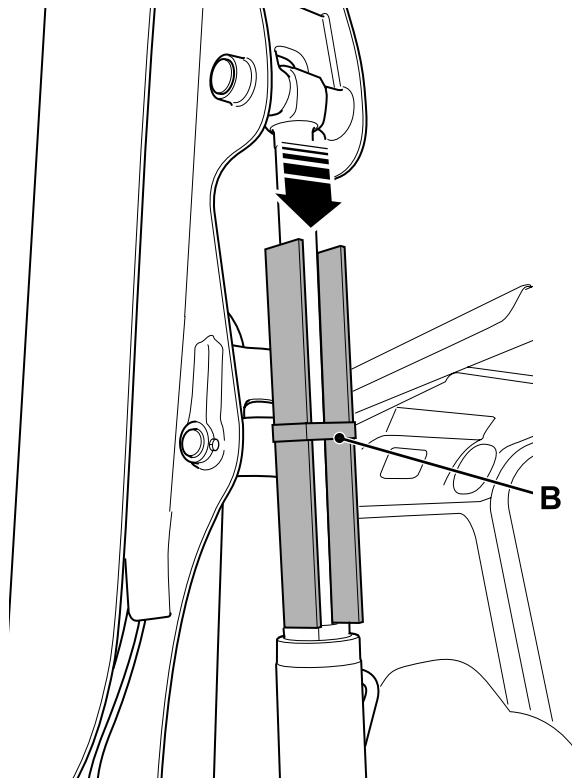

Fig 2.
- 5 Place the strut **A** around the lift ram piston rod. → Fig 2. \(□ 2-2-5\). Use the strap **B** to attach the strut to the lift ram piston rod.